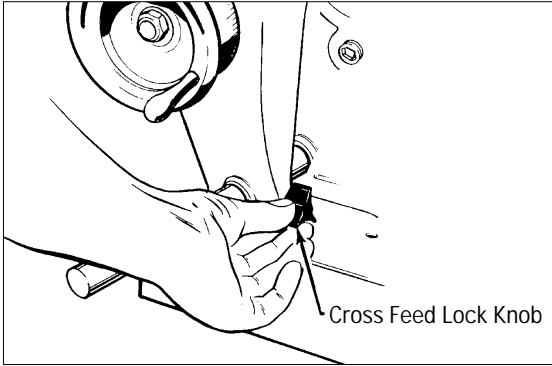

Figure 15 - Lock cross feed
19. With the lathe running, set the depth-of-cut dial to the depth desired and lock the cross feed by tightening the lock knob (figure 15).